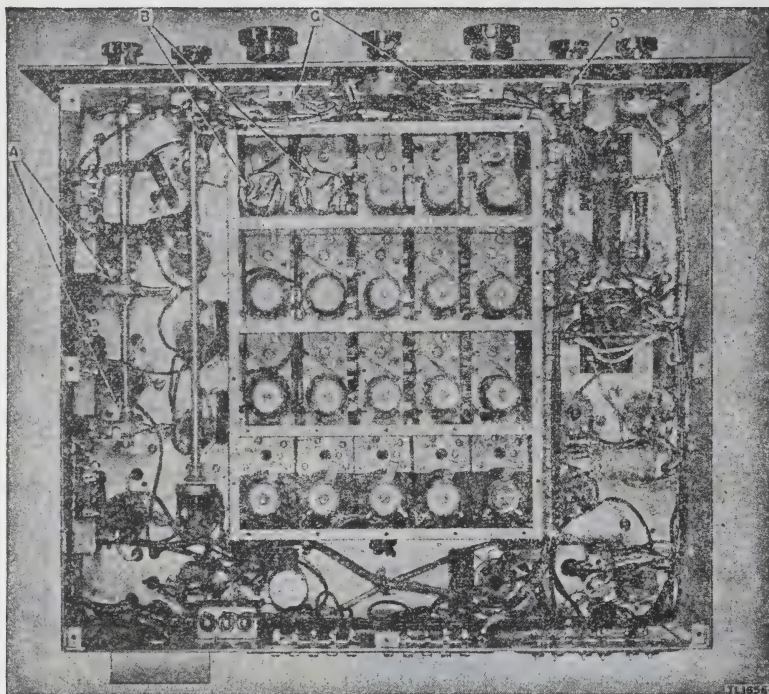

Figure 21. Radio Receiver BC-1004-C, bottom view of chassis, showing masking.
(4) Cams and levers on bandwidth selector-mechanism shaft (A, fig. 21).
(5) Capacitors in alinement-adjustment section (B, fig. 21).
(6) Friction drive wheels of main tuning and band spread selecting mechanism (C, fig. 21).
(7) Phone jack (D, fig. 21).
e. DRYING. (1) Place equipment in an oven or under heat lamps and dry for 2 or 3 hours at 160° F.